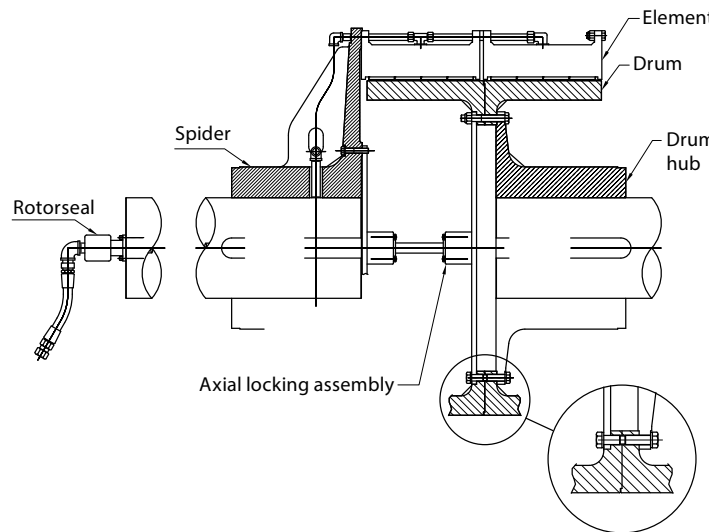

Figure 3
2.1 Airflex HEVC grinding mill clutch applications are available in dual-wide mounting configuration. See Figure 3. The clutch configuration is determined by the motor horsepower and RPM, the allowable motor overload (percent rated horsepower) for mill starting, the inertia of the mill and the charge, and the physical space available for the clutch. All clutches can be supplied with or without an axial locking device.
- 2.6.2 Attach the drum having the female register on the drum flange to the drum hub with short screws and lockwashers. There are tapped holes in the drum flange to accept the screws. Make sure the bore in the drum flange fully engages the pilot on the drum hub. See Figure 3.